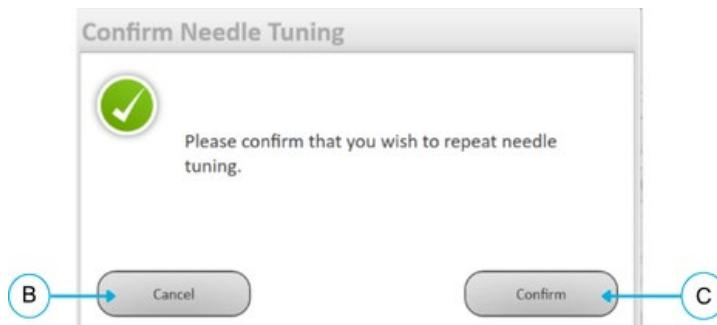

Figure 11-10: Confirm Needle Tuning
■ **NOTE:** If the **[Tune Needle]** button is selected again, the Confirm Needle Tuning box will appear (**Figure 11-10**).
- Select **[Cancel]** to exit without Re-Tuning the Needle (**B**) (**Figure 11-10**)